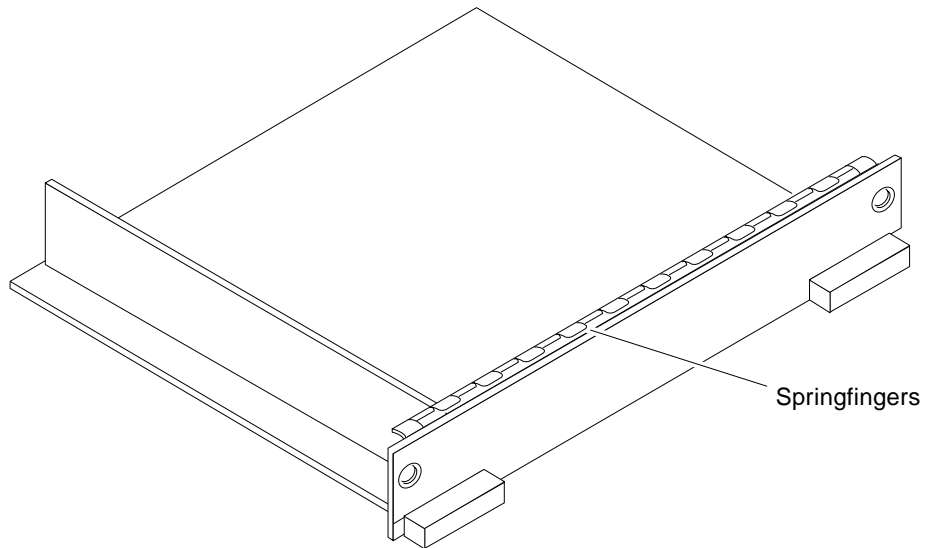

FIGURE 3-1 Filler Panel (Enterprise 5500/4500 Only)
- Empty slots in Enterprise 5500 and 4500 systems must have a filler panel installed (FIGURE 3-1).